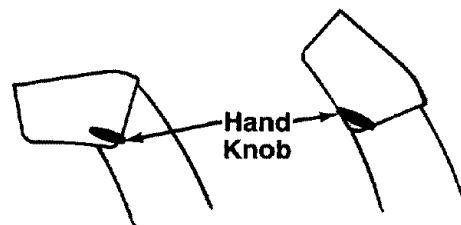

FIGURE 19.
**Discharge Chute**—The direction snow is thrown can be changed by turning the chute crank. See figure 19. Turn clockwise to discharge to the left. Turn counterclockwise to discharge to the right. The distance snow is thrown can be adjusted by raising the discharge chute for greater distance, or lowering for less distance. See figure 19. Loosen the hand knob on the side of the discharge chute to adjust. Pivot the chute to desired position, and retighten hand knob.